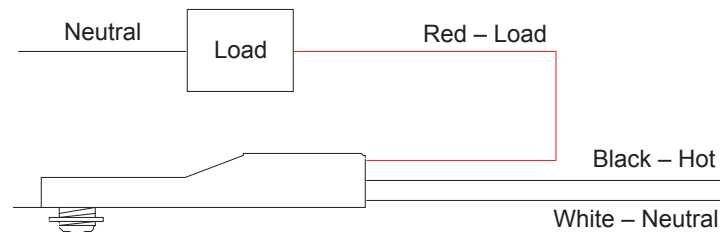

Fig 2: FS-155/155-1 wiring
7. Connect load and supply wires as shown in Figure 2.